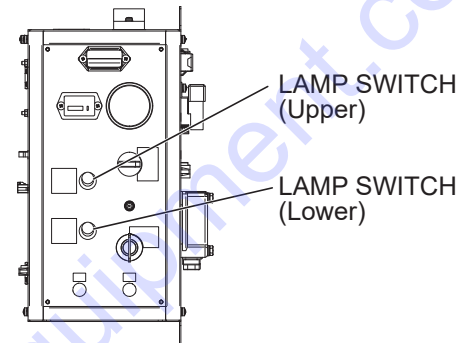

**Figure 16. Ignition Switch**
3. Insert the ignition key into the ignition key switch (Figure 16).